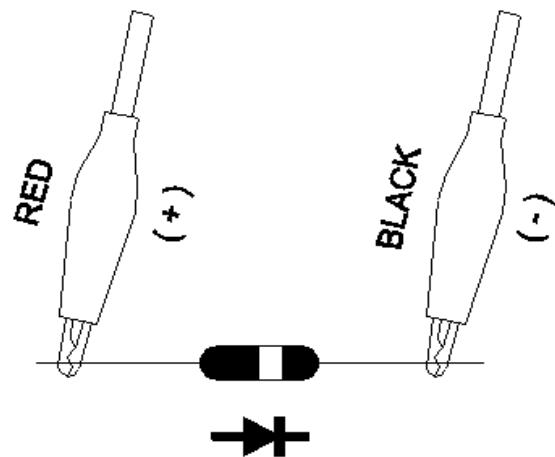

Fig. 2
5)a. When connected with polarity as shown in Fig. 2, a forward current flow is established and the approx. Diode Forward Voltage (VF) values in volt will display on the display reading. If the diode under test is defective, ".000" or near ".000" value (short circuit) or " 1 " (open circuit) will be displayed.